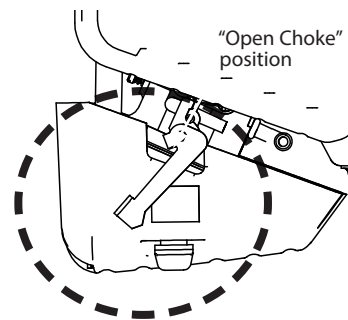

Figure 3
- If the engine is warm or the ambient temperature is high, open the choke lever half-way or keep it fully open. **SEE FIGURE 3 AND 4.**
11. After starting the engine, slowly move the choke lever to the "Open Choke" position as the engine warms up. Move throttle to desired speed. **SEE FIGURE 3.**